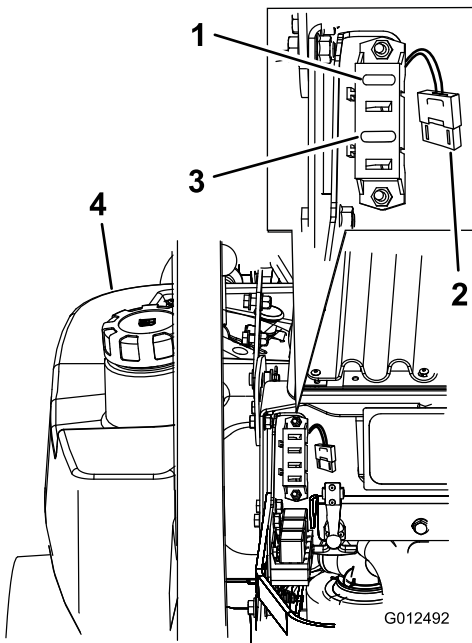

Figure 55
1. Unlatch the engine hood and raise the engine hood to gain access to fuse holder (Figure 55).
3. Install a new fuse (Figure 55).